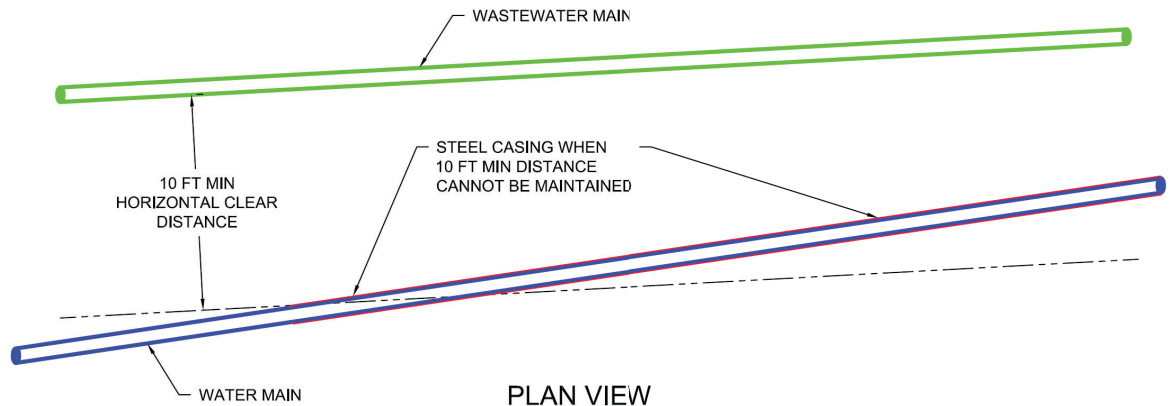

Figure 6- Horizontal Separation Requirements
- 3.15. If separation of the water main and wastewater main cannot be achieved horizontally and the wastewater main is not of the same material as the water main and designed to be pressure tested for water tightness, steel encasement of the water main is required that extends along the entire length where horizontal clearance cannot be maintained. This must be indicated and label on all design drawings submitted for review and approval. Distances must be measured from outside edges of pipes. See Figure 6.